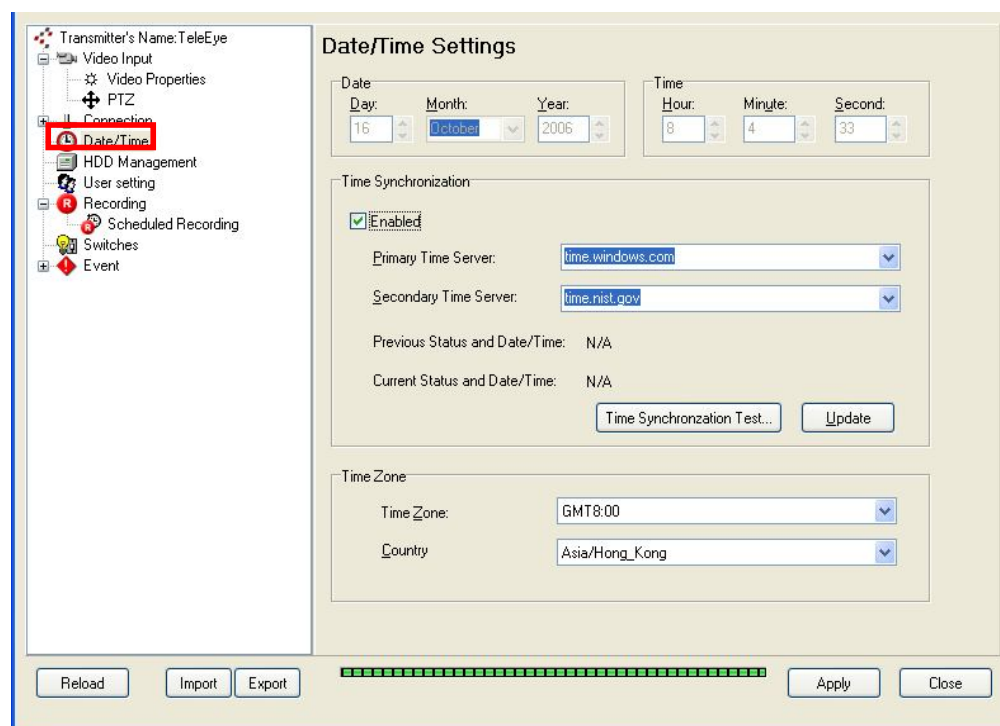

Fig 4.9a
Step 1 : In {**Transmitter Setup**} panel, click **[Date/Time]** as **Fig 4.9a**.